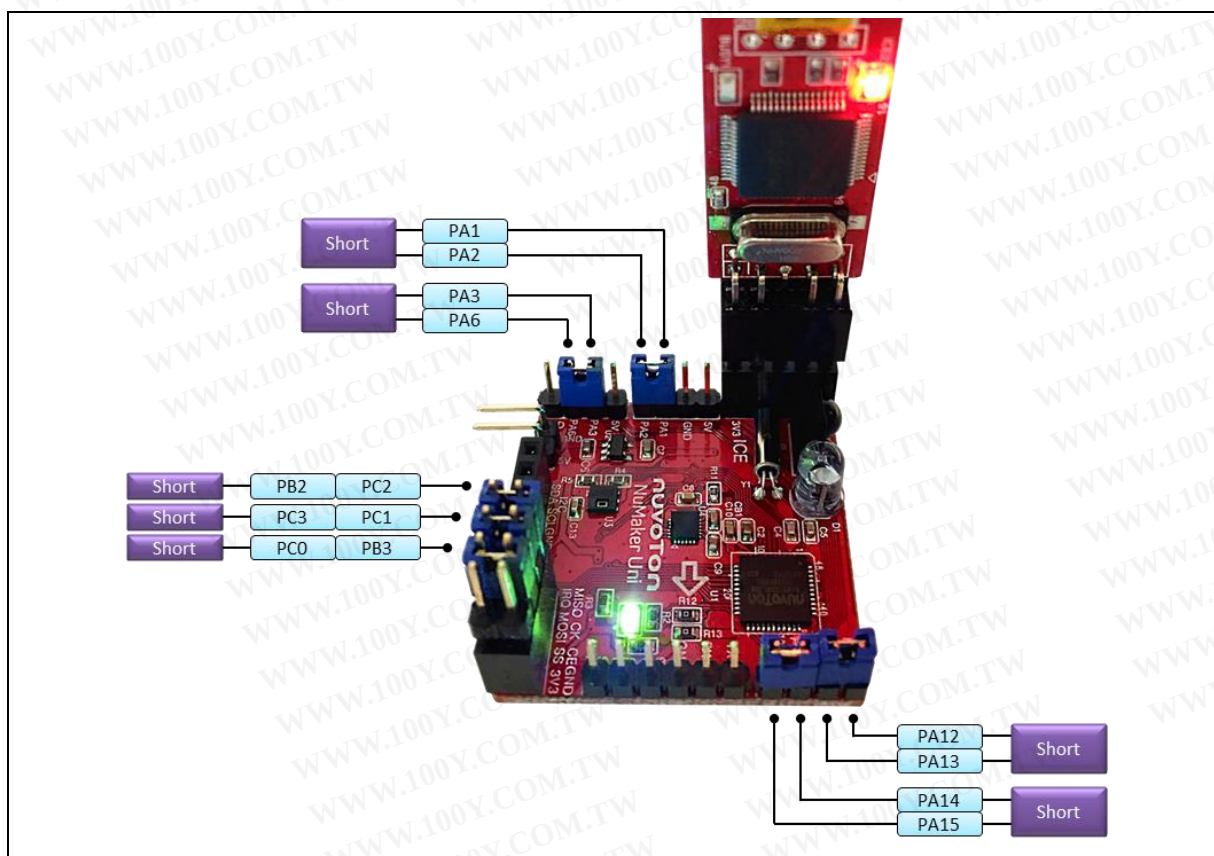

Figure 6-1 NuMaker Uni Hardware Setup
1. To execute this sample project, some extension pins need to be short on NuMaker Uni. The hardware setting is shown in Figure 6-1.